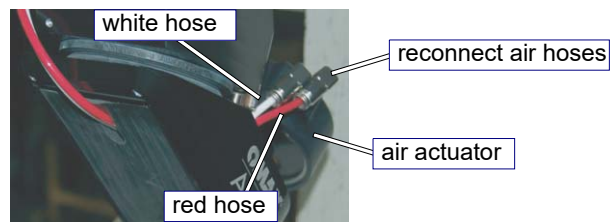

Figure 52
**Note:** Tighten the air actuator set screw until snug (Figure 52). If the actuator cover has rotated causing the air fittings to make contact, loosen the set screw and reposition the cover so that contact is no longer possible. Gently tighten the set screw with the cover pulled all the way up.